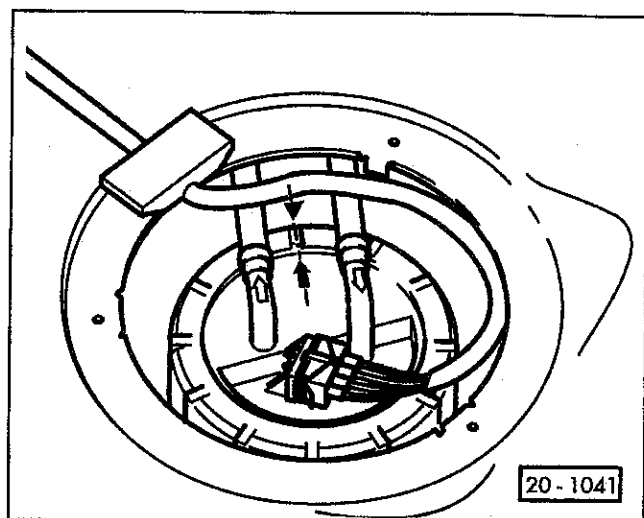

Fig. 8. Fuel pump supply line (black), return line (blue) and harness connector. Note matching marks on tank and pump (arrows).
3. Disconnect the harness connector, the supply line, and the return line from the fuel pump. See Fig. 8.
Align the pump so that the matching mark on the tank aligns with the mark on the pump. See Fig. 8.